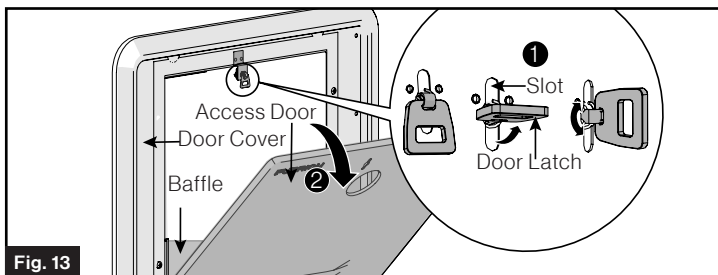

Fig. 13
- Remove the access door and frame from the box, separate the components. (Fig. 13)
- Step ①: separate the access door from the mounting frame. Lift the latch and rotate 90° to unlock the door cover from the trim.
- Step ②: Pull the access door from the mounting frame.